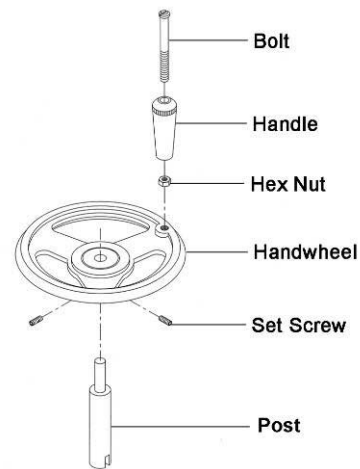

Figure 1
1. Slide the post up into the handwheel and secure with the set screws, as shown in Fig 1.
2. Use a flat head screwdriver to screw the bolt of the handle as far as it will go into the threaded hole of the handwheel, then tighten the hex nut down against the handwheel (Fig. 1).